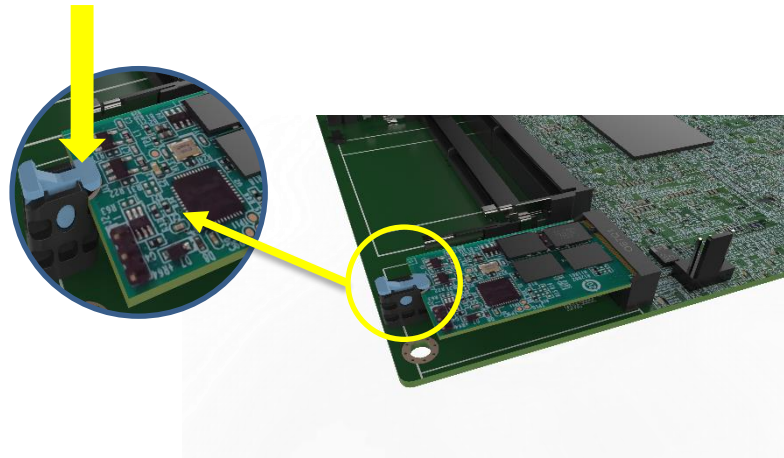

Figure 4-12: Aligning the M.2 Module with the Retainer
Step 3: Align the notch on the end of the M.2 module with the clip of the retainer. (See **Figure 4-12**)